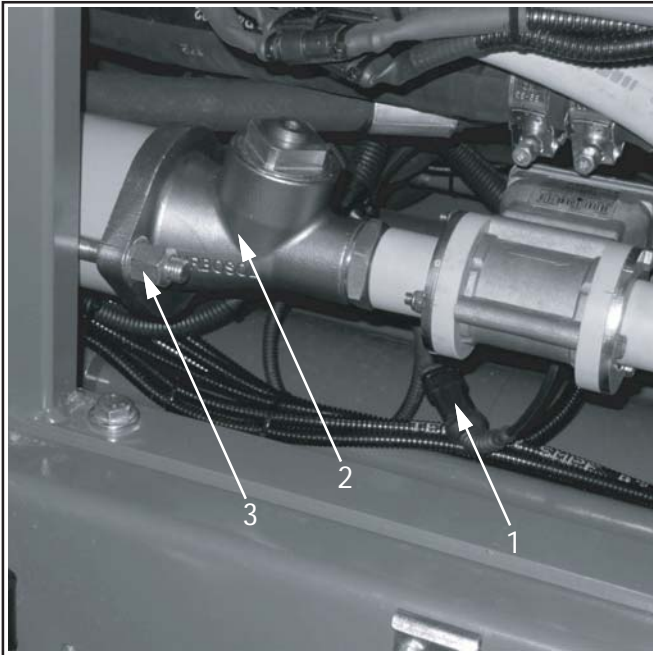

FIG.59
- release the plug (FIG.59-REF.1).
- Loosen the bolt (FIG.59-REF.3).
- Remove the flange (FIG.59-REF.2).